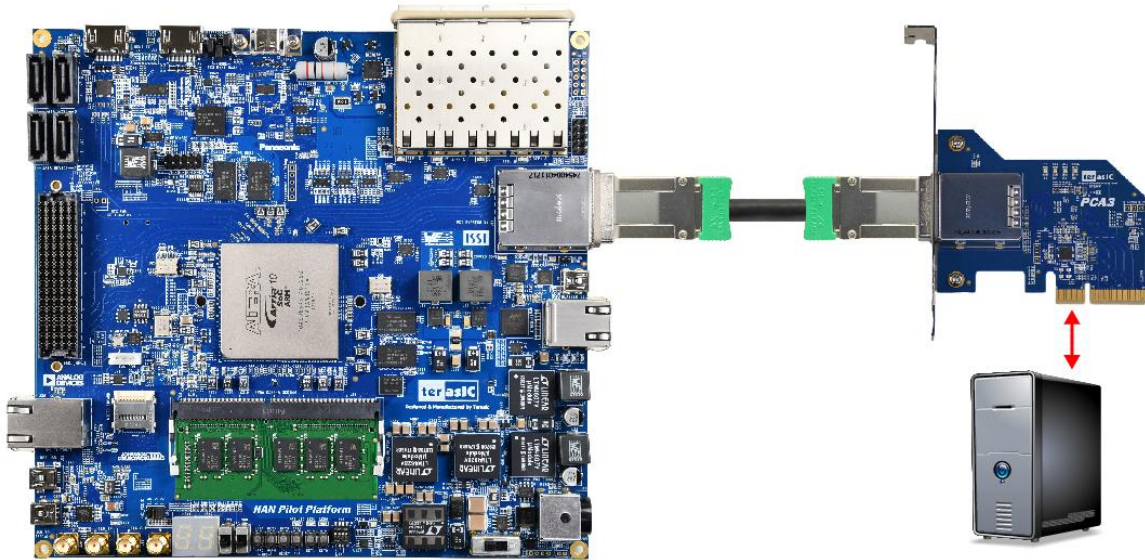

Figure 5-18 FPGA board connect to PC
3. Install the FPGA board on your PC as shown in **Figure 5-18**.